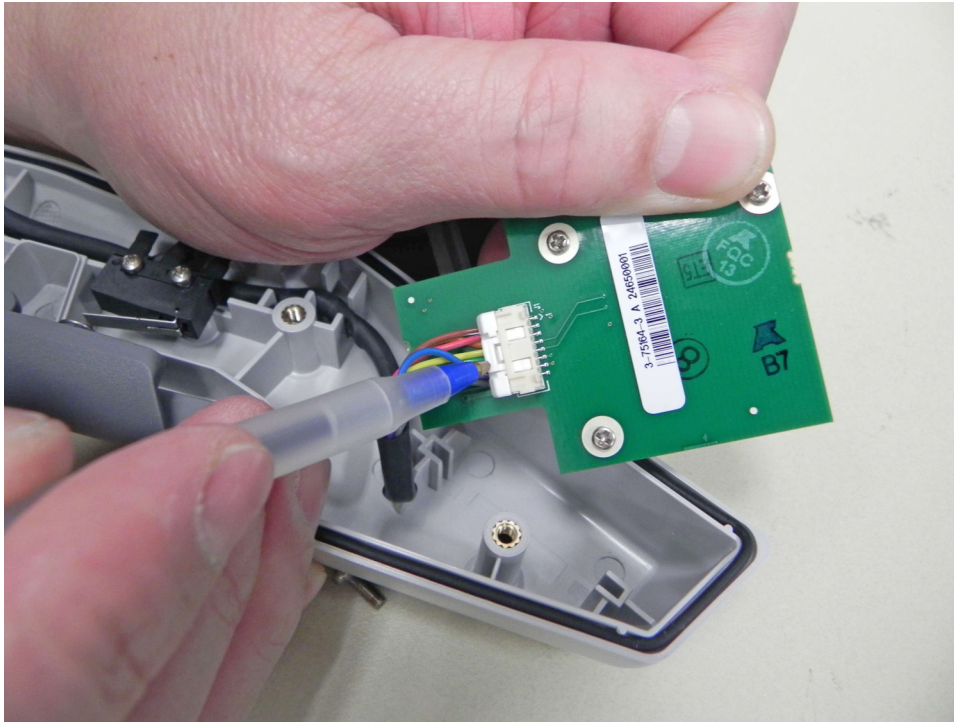

Figure 3-4. GPS/Compass Module Assembly
3. Remove the cable attached to the GPS/Compass assembly by depressing the locking tab in the center of the connector and sliding the connector off (Figure 3-4).